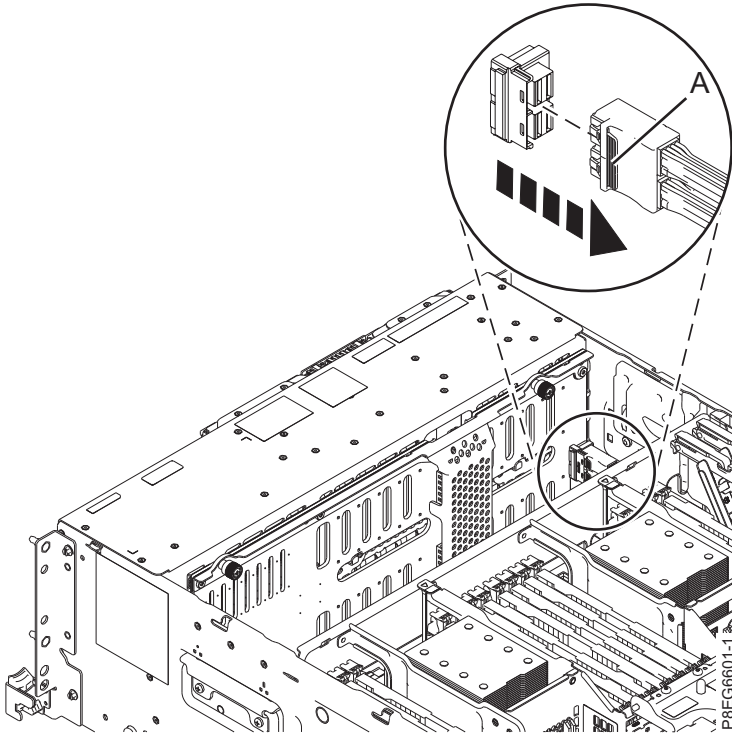

Figure 3. Unplugging the SAS cable from the disk drive backplane
4. Label the front SAS cable that is attached to the SAS RAID internal adapter. Press the latch (A) and unplug the connector of this cable from the disk drive backplane, as shown in Figure 3 on page 6. Leave the other end of this cable plugged in to the P1 connector of the SAS RAID internal adapter until directed to unplug it.